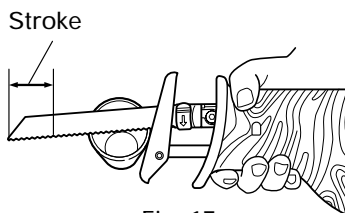
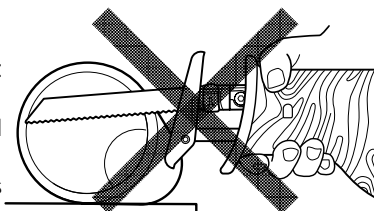
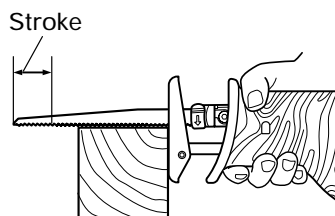
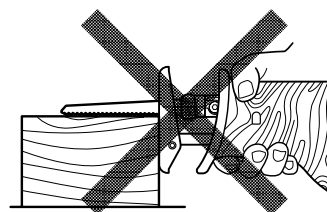

Fig. 17
Fig. 18
Fig. 19
Fig. 20
- Select a saw blade of the most appropriate length. Ideally, the length protruding from the base of the saw blade after subtracting the stroke should be larger than the material (see Fig. 17 and Fig. 19). If you cut a large pipe, large block of wood, etc., that exceeds the cutting capacity of a blade; there is a risk that the blade may contact with the inner wall of the pipe, wood, etc., resulting in damage. (Fig. 18, Fig. 20)